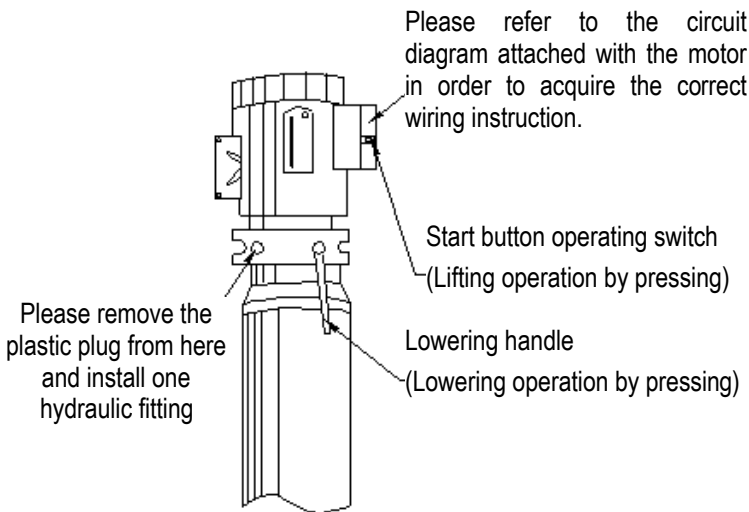

Fig.7
5.2.8 Connecting the power supply (As Fig.7)